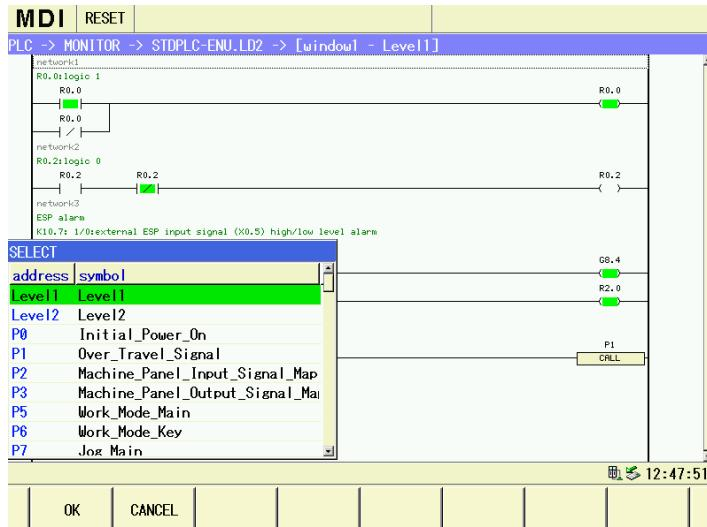

Fig.3-23
(2) Press software key to select the window program, and then the page is shown in Fig.3-23: